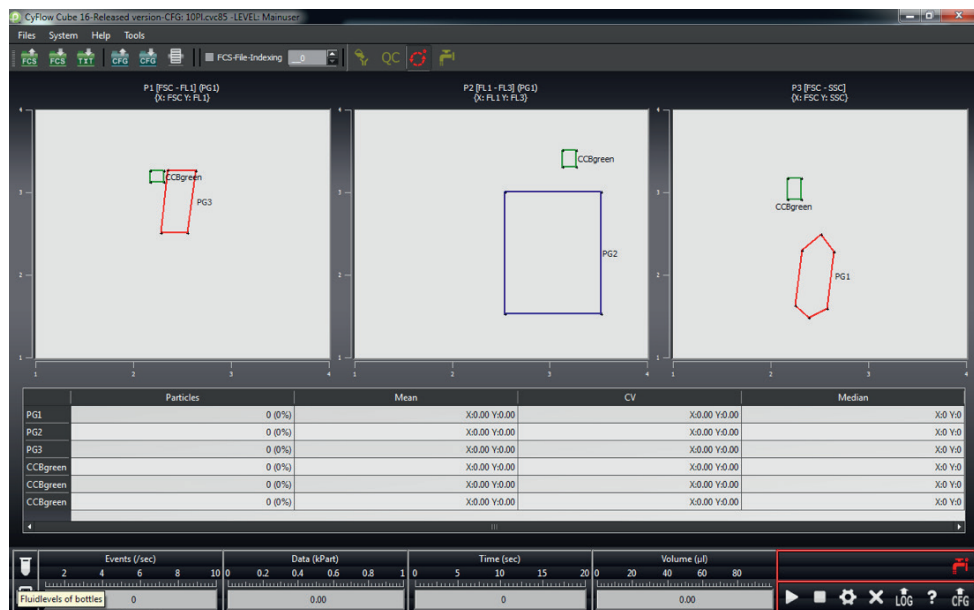
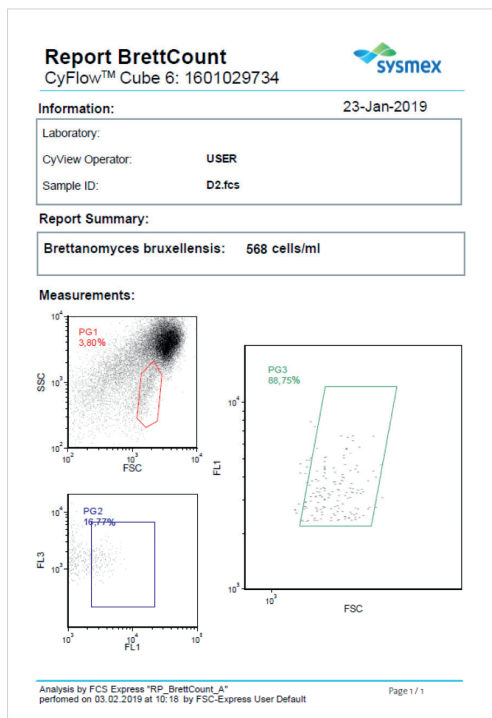

Figure 1: Configuration script BrettCount_A.cvc85
Figure 3: CyFlow™ BrettCount report. Cell count is based on the content of PG3.
- M04.** On the instrument switch to the [Work] stack  to activate the analysis layout (**Figure 1**, page 9).
- M08.** The data will be automatically saved (with date and time stamp) and transferred to the CyFlow™ BrettCount Report (**Figure 3**, page 11).
The CyFlow™ BrettCount assay on CyFlow™ Cube 6 instruments with CyView™ software (version 1.6 or higher) operates with the dedicated configuration script “BrettCount_A.cvc85” (**Figure 1**, page 9) for sample measurement, the dedicated FCS Express template “RP_BrettCount_A.ley” (**Figure 3**, page 11) for data reporting and the QC report “QC_BrettCount_A.ley” (**Figure 6**, page 17) for assay setup and daily quality control.
2. Load the Quality Control stack by clicking on the [QC]  button within the top ribbon (**Figure 1**, page 9).